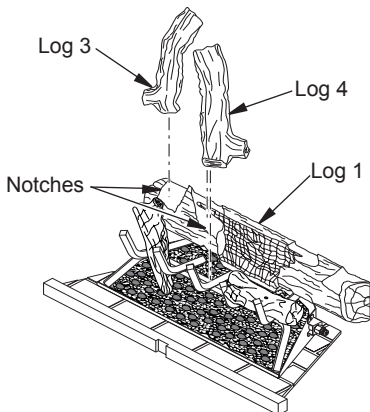
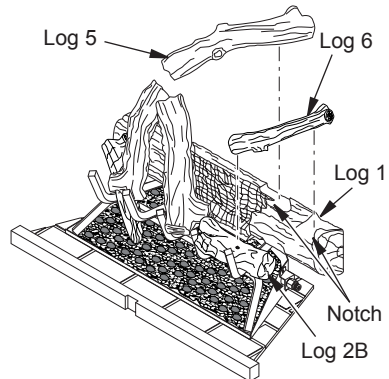
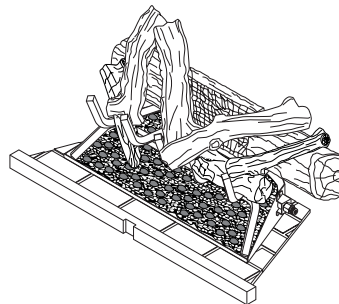

Figure 28 - Installing Logs 3 and 4
Figure 29 - Installing Logs 5 and 6
Figure 30 - Logs Installed for M42E, M42EP, VME42E and VM42EP Models
3. Place log 3 into notch on top left of log 1, resting the lower end on the left two grate fingers (see Figure 28).
4. Place the upper end of log 4 into the notch on log 1 as shown in Figure 28. Rest the lower end of log 4 on the middle grate finger as shown in Figure 29.
5. Place the upper end of log 5 into the notch on the top inner right of log 1 (see Figure 29). Rest the lower end of log 5 on the middle grate finger as shown in Figure 30.
6. Place log 6 into the notch on the top right of log 1 (see Figure 29). Rest the lower end of log 6 on top of log 2B (see Figure 30).